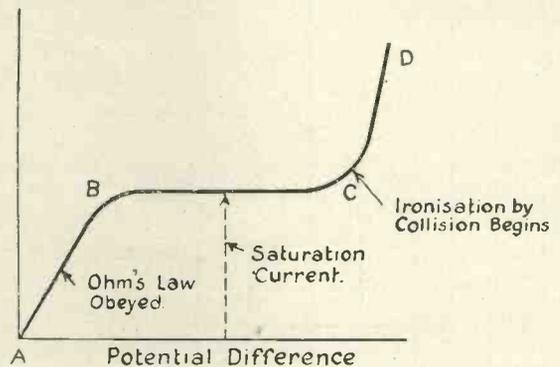

Fig. 2.—Relation between P.D. and current through a gas.
It has been found that under these circumstances the gas approximately obeys Ohm's law, as shown in Fig. 2 (AB). As the P.D. between the plates is further increased, however, there comes a point beyond which further increase in the electric field is not
acquire so much energy between successive collisions with the molecules of the gas that the collisions result in the loss of electrons from the atomic systems of the molecules. If this happens, an original electron has caused the appearance in the gas of another electron and a positive ion; these at once commence to drift in their proper directions under the electric field, and they may acquire sufficient energy to produce further electrons and ions at their next encounters, and so on. The process now taking place is known as "ionisation by collision," and it will be evident that owing to this "snowball" action the total ionisation in the gas will increase with great rapidity.\* The curve showing the relation between the P.D. and the current through the gas, when ionisation by collision sets in, is given in Fig. 2 (CD). This phenomenon is, in fact, what is commonly known as "electric discharge" or "sparking." When the sparking potential is reached, both the positive and negative carriers begin to ionise by collision. The mean potential gradient required to produce sparking is approximately proportional to the pressure of the gas; in air at atmospheric pressure it is about 30,000 volts per cm. and in air at 1 mm. pressure about 40 volts per cm.